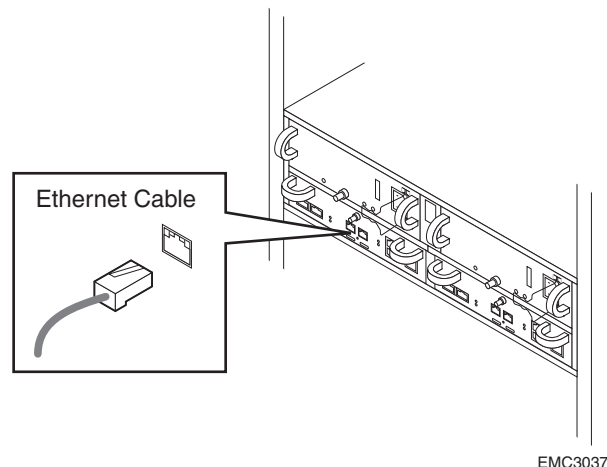

Figure 2-11 Connecting a Gigabit Ethernet Cable
1. Plug Ethernet cables into the two front-end iSCSI ports on each SP (FE 0 and FE 1). See Figure 2-11.